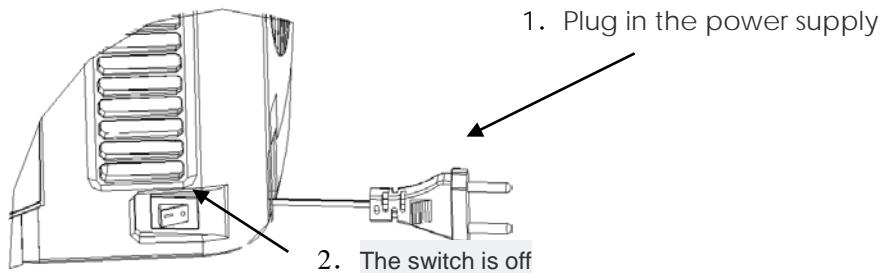

Figure 13
3. Turn on the beertender by putting the switch into "I" position. (Power off at "0" position) (Figure 13)